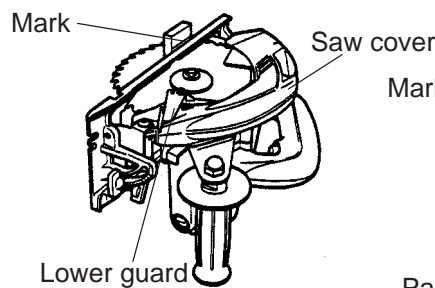

Fig. 2
- (c) Hold a piece of wood to the rear of the base and put a mark on the piece of wood at the side of the base (Fig. 2).